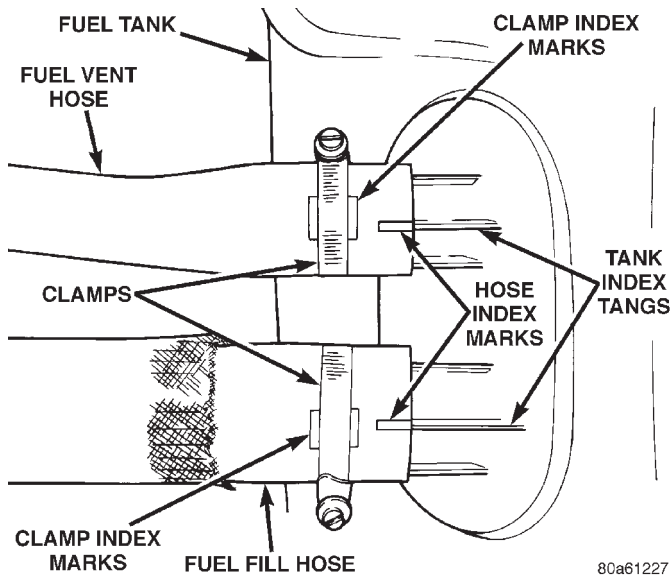

Fig. 37 Fuel Fill/Vent Hose Index Marks
(14) Continue lowering tank until clear of vehicle. Place tank on floor with left side (hose side) higher than right side.
(15) Drain tank by removing fuel fill hose at tank. Fuel fill hose is largest of 2 hoses (Fig. 37). Insert the drain hose (from an approved gasoline draining station) into hose opening. Drain tank until empty.
(16) If fuel pump module removal is necessary, refer to Fuel Pump Module Removal/Installation in this group for procedures.
(1) If fuel pump module is being installed, refer to Fuel Pump Module Removal/Installation in this group for procedures.
(2) Install fuel fill/vent hoses to tank fittings. To prevent hose from kinking, rotate each hose until index mark on hose is aligned to index tang on fuel tank (Fig. 37).
(3) Install hose clamps to hoses. Position clamps between index marks on each hose (Fig. 37).
(4) Position fuel tank to hydraulic jack.
(5) Raise tank into position while guiding fuel fill and vent hoses into and through access hole in body.
(6) Continue raising tank until positioned to body.
(7) Attach two fuel tank mounting straps and mounting nuts. Tighten nuts to 10 N·m (90 in. lbs.) torque. Do not over tighten nuts.
(8) Install both fuel hoses to fuel fill tube. Tighten both retaining clamps.
(9) Position fuel hose shield to body. Install and tighten 4 mounting bolts.
(10) Connect fuel pump module pigtail harness electrical connector near front of tank.
(11) Connect fuel pump module supply line near front of tank. Refer to Quick-Connect Fittings for procedures.
(12) Connect EVAP hose near front of tank.
(13) Install exhaust tailpipe heat shield.